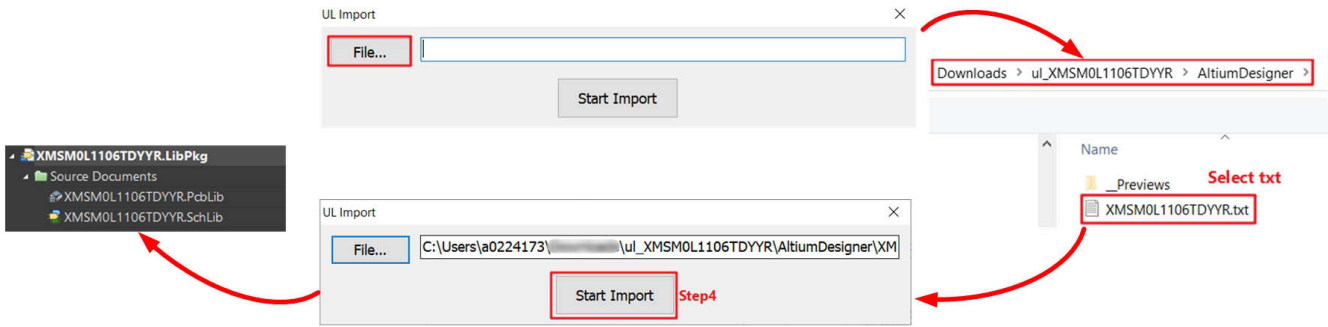

Figure A-15. Generate Library
5. Generate the PCB library and schematic library as shown in Figure A-15.